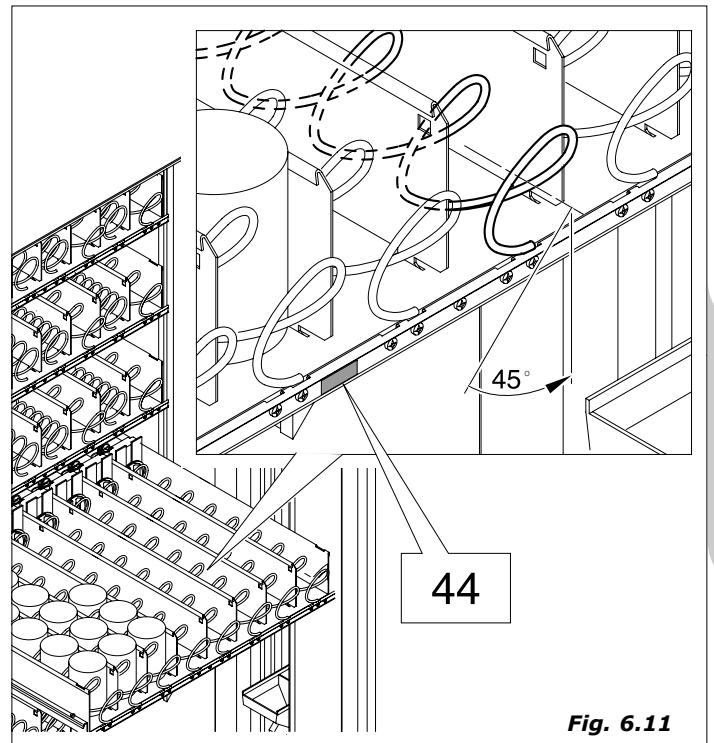

Fig. 6.11
- every spiral can be rotated 45° at a time (fig.6.11) so as to find the ideal position for every kind of product. For adjustment, see the special chapter.
- The plates indicating the number of each selection and the relative price are inserted in the special slits as indicated in the figure 6.11. For the number to be given to each selection, check Chapter 9.2.3 (Change spiral number).